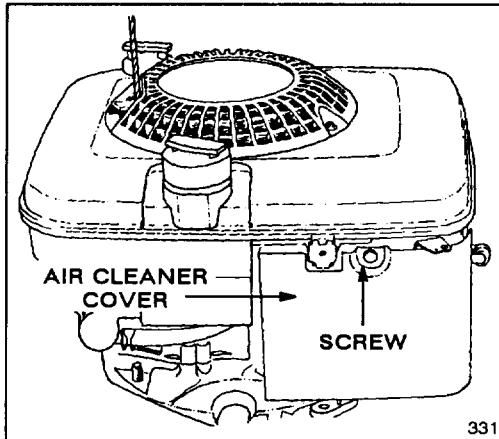

Figure 17
2. Remove screw securing air cleaner cover to engine (Fig. 17). Tilt cover down and clean thoroughly.